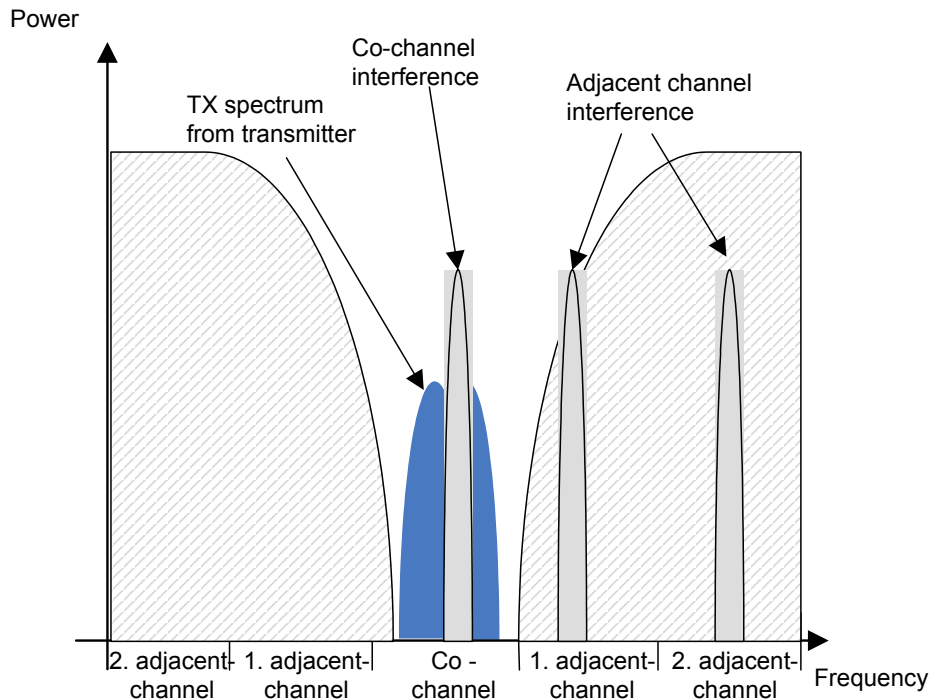

Figure 22. Co and adjacent channel interference
The RF channel is defined as the bandwidth (BW) that the radio under test requires for communication. The first adjacent (neighboring) channel is one bandwidth offset from the frequency used by the radio under test, the second is  $2 \times BW$  offset and so on. This is illustrated in Figure 22.
Receiver selectivity is indicated by the shaded area in Figure 22.
If the input power received from an interfering system exceeds the selectivity of the receiver then the interference causes the receiver to make errors and you have an increase in the Bit Error Rate (BER). Figure 22 shows how a received interference signal with a certain power level may affect your receiver if it is the co-channel or 1st adjacent channel interference, while it is no problem if it is found in the 2nd adjacent channel or further away.